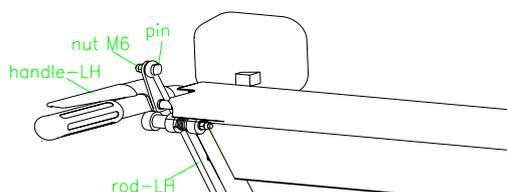

FIG 4
**2.3.2** Assemble the upper side of Rod-LH onto the left handle with the pin and the nut M6. (FIG 4)